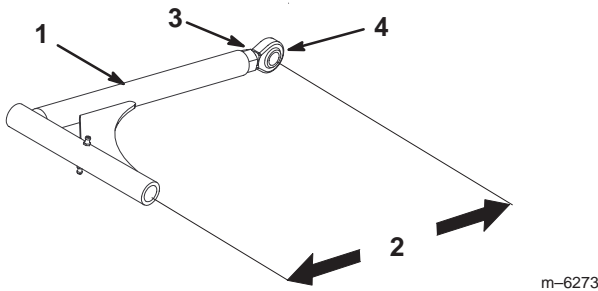

Figure 65
11. If the fixed idler contacts the end of the adjustment slot and more belt tension is required, a small change to lengthen the push arms can be made (Fig. 65).
12. To adjust the push arms, loosen the jam nut and rotate the ball joint counterclockwise, one turn at a time. Adjust each side the same amount (Fig. 65).